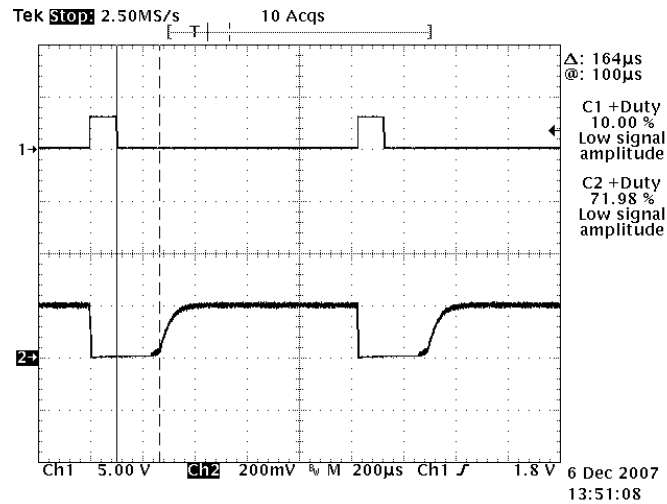
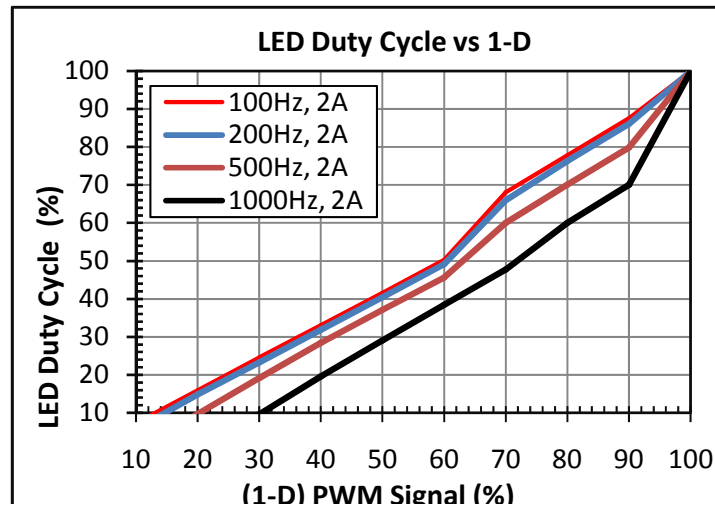

Figure 1. 1KHz, 10% duty cycle dimming signal is approximately 70% LED duty Cycle
Figure 3. LED Duty Cycle Vs (1-D) DIM pin Duty Cycle with 12Vin, 2 Luxeon K2s in parallel at 2A total
A logic-level PWM signal applied through a small-signal diode to the feed-back (FB) pin can be used for dimming control of the LED. This external signal we call DIM turns the MOSFET gate drive on/off, thereby modulating the average current delivered to the LED. The DIM signal connects to the VFB pin through a 1N4148 diode and will shutdown the SP7600 when DIM = H and turn-on the SP7600 when DIM = L. The DIM signal needs to be greater than 600mV minimum to turn-off the SP7600 and less than 200mV to fully turn-on the SP7600. It is recommended to use a signal with DIM = 1V or more for OFF and 0V for ON. The user should note that the logic is reversed relative to many other PWM controlled LED drivers. In other words a logic level high at 20% duty cycle will result in approximately an 80% duty cycle for the LED. Recommended modulation frequencies are from 100Hz to 200Hz with 10 – 90% duty cycle, 500Hz with 10 – 80% duty cycle, and 1000Hz with 10 - 70% duty cycle. Figures 1 & 2 show the output response at the maximum PWM DIM signal of 1000Hz. See figure 3 for 100Hz to 1000Hz duty cycle response for two Luxeon K2 LEDs in parallel at 2A total current.